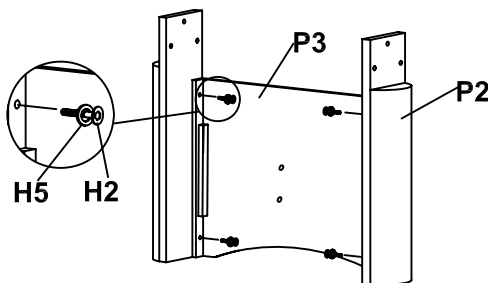

Figure 2
- 2: Attach the leg panels **P3** to the legs **P2** using 1/4 bolts **H2** and flat washers **H5**, as shown in **FIGURE 2**. Repeat this step for all the legs and leg panels.